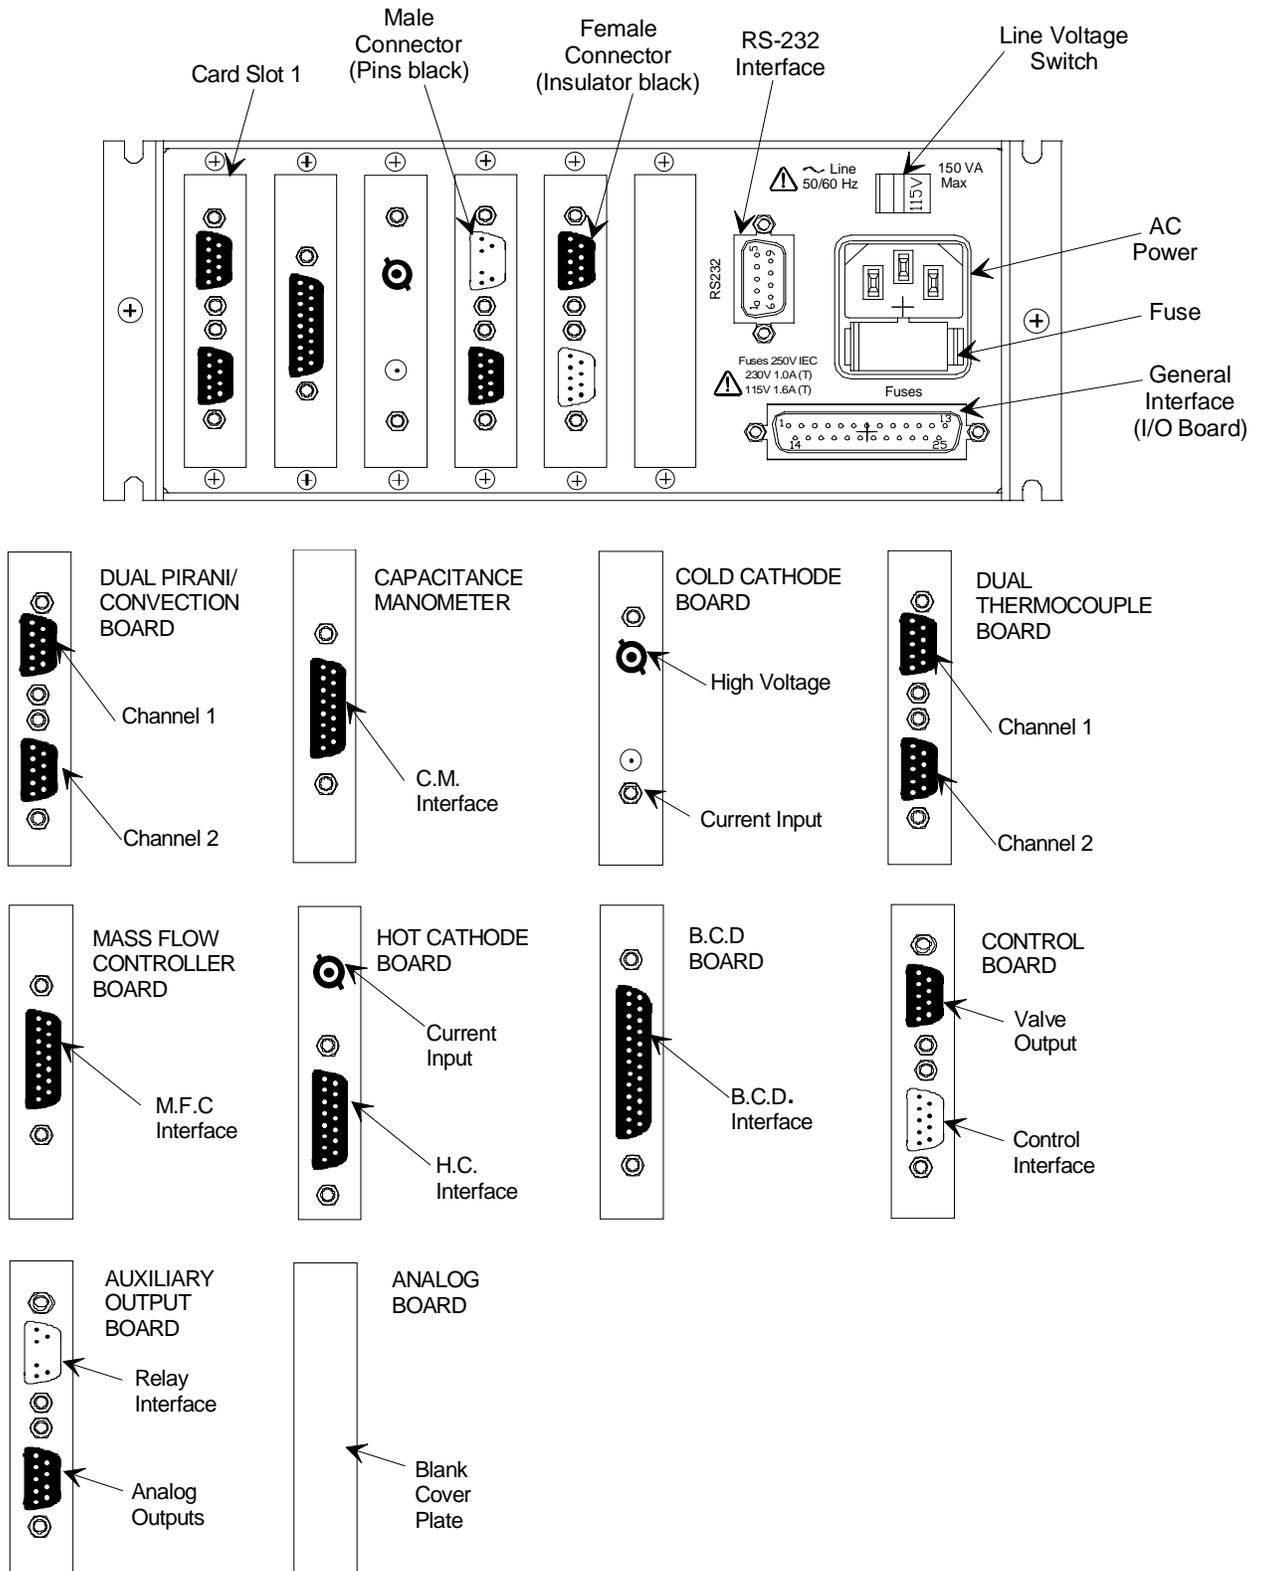
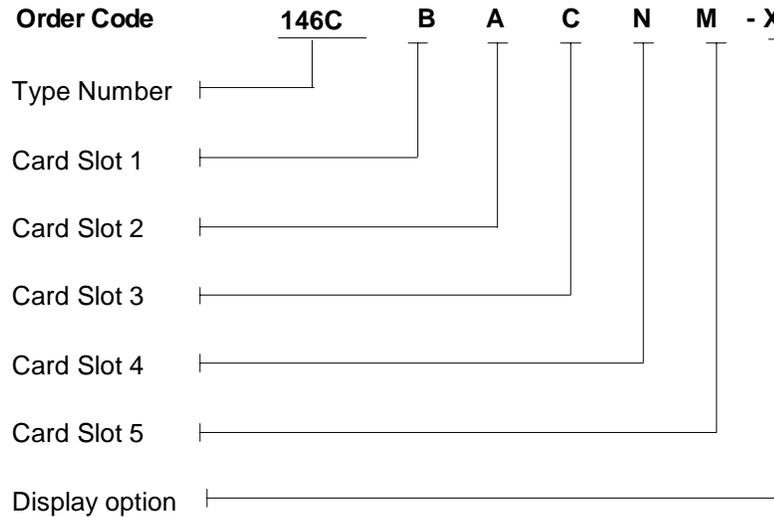

Figure 4: Rear Panel of the 146 Unit
Figure 5: Model Code
All or some of the following boards may have been ordered with your basic 146 unit. Examine the rear panel of the 146 unit to make sure your unit conforms to your order code. Refer to Figure 4, page 27, to see how to identify these boards by their connectors on the rear panel. Also, refer to the explanation of an order form code in Figure 5, page 28. The boards should be placed within the 146 unit in the same order as they are listed on your order form.
- Connect the gauge/MFC interface cable to the appropriate 146 connector. Refer to Figure 4, page 27, to identify the appropriate connector.